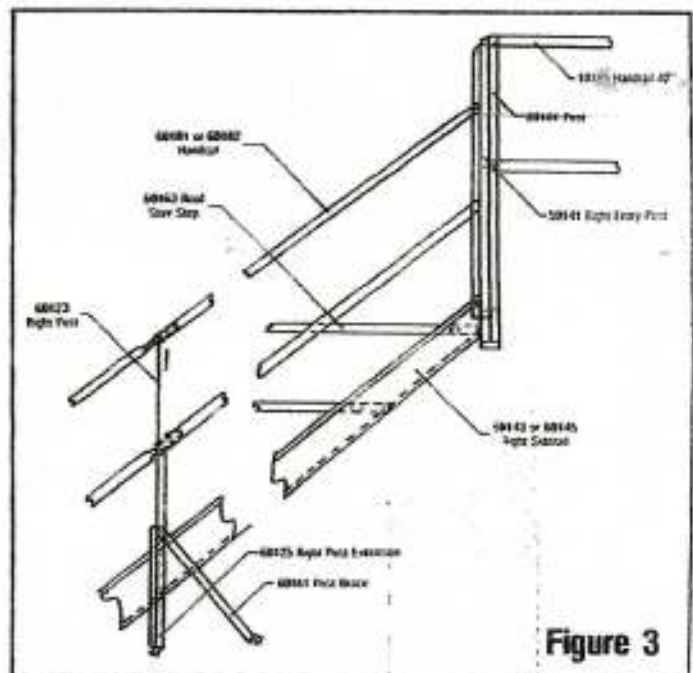

Figure 3
- Step 1:** Attach right entry post 50141 with beveled end up to a handrail post 80101, using (3) 5/16" x 3/4" bolts. Refer to Figure 3.
- Step 2:** Attach left entry post 50142 with beveled end up to a handrail post 80101 using (3) 5/16" x 3/4" bolts. Refer to Figure 3.